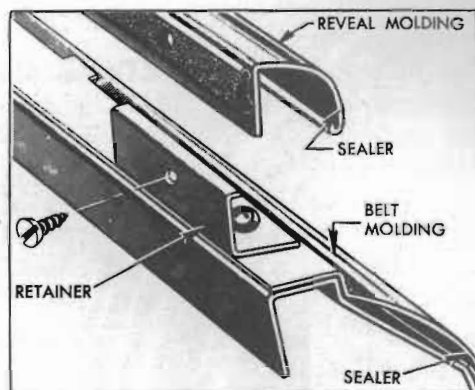

Figure 13-40—Door Lower Reveal and Belt Molding Attachments
tainers on door, then lift molding up to remove it. See figure 13-40.
6. To remove belt molding also, remove screws and reveal molding retainers along lower edge of window opening, then remove belt molding. See figure 13-40.